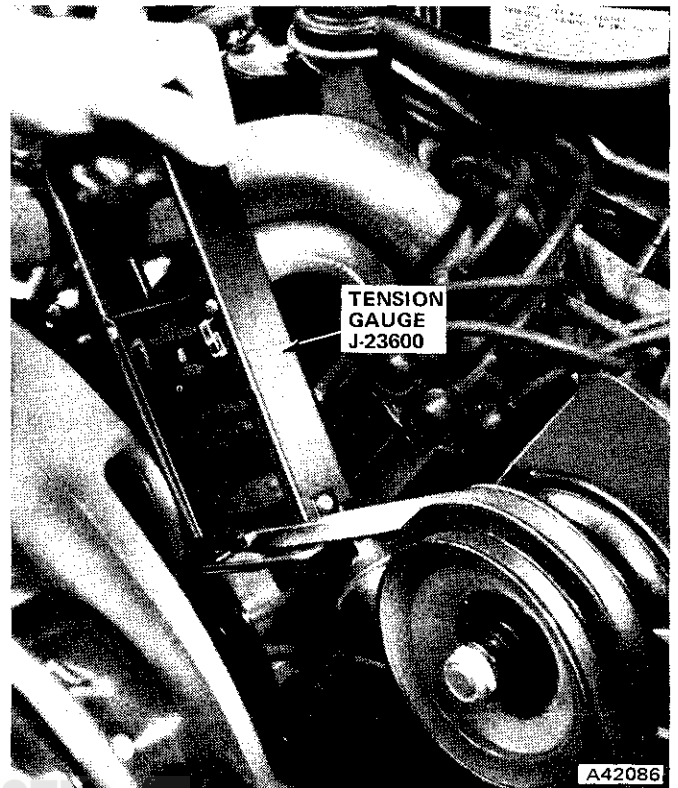

Fig. 2L-51 Checking Belt Tension
(4) Install pump pulley using tool J-25033 (fig. 2L-50).
(5) Install pump belt and adjust belt tension. Refer to Belt Tension Adjustment.
(6) Fill pump reservoir with power steering fluid and bleed air from system. Refer to Fluid Level and Initial Operation.